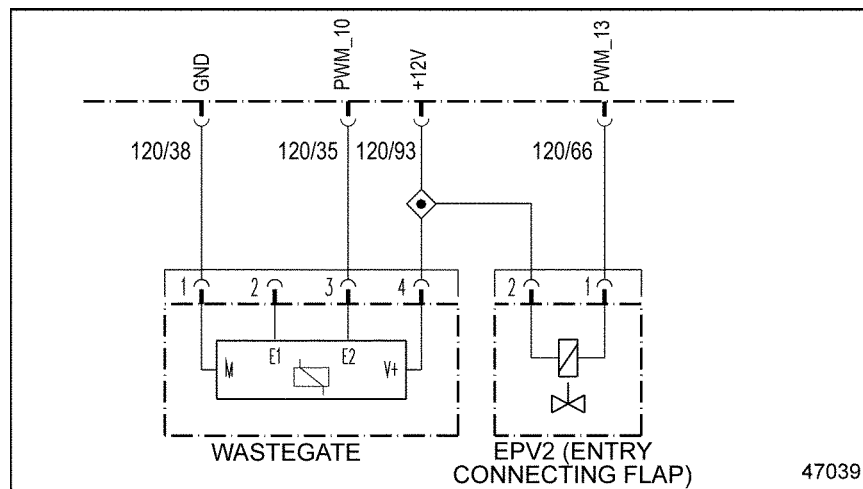

Figure 32-3 EPV2 (Volute) and Wastegate
- [a] If the voltage is between 11 and 13 volts, repair the open in the wire between pin 66 of the 120-pin MCM connector and pin 1 of the EPV2 connector. See Figure 32-3. Refer to section 32.3.1.1.